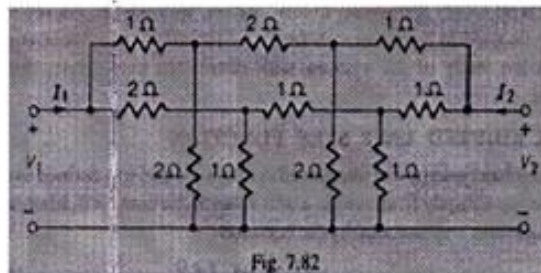

Fig. 7.82
19. For the resistive network shown in Fig. 7.82, calculate the y-parameters.